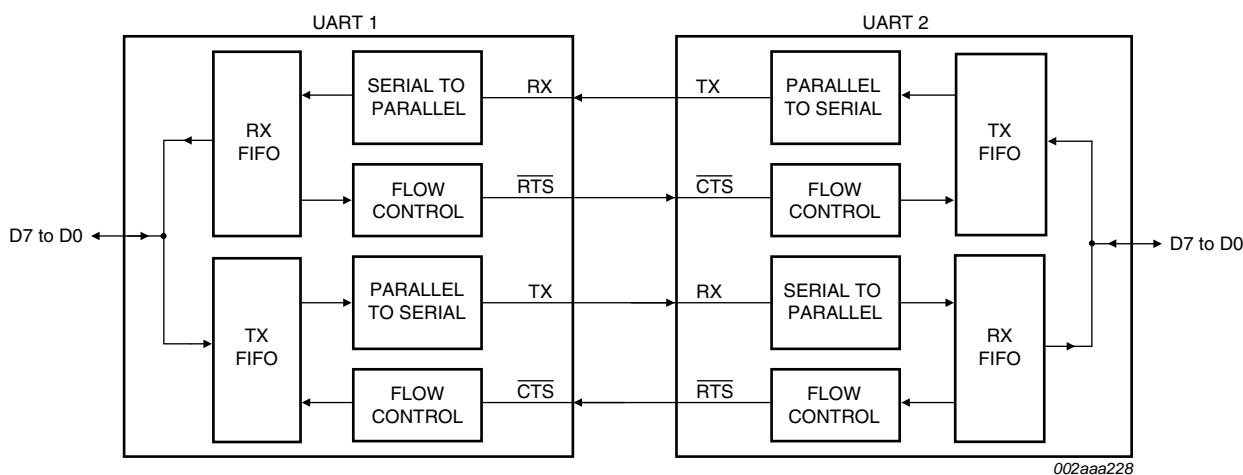

Fig 9. Autoflow control (auto- $\overline{\text{RTS}}$ and auto- $\overline{\text{CTS}}$) example
6.4 Autoflow control (see Figure 9)
6.4.1 Auto- $\overline{\text{RTS}}$ (see Figure 9)
6.4.2 Auto- $\overline{\text{CTS}}$ (see Figure 9)